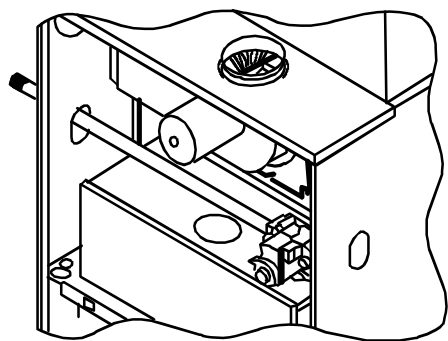

Figure 11
- Straight pipe to reach the exterior of the furnace. See Figures 11 & 12.